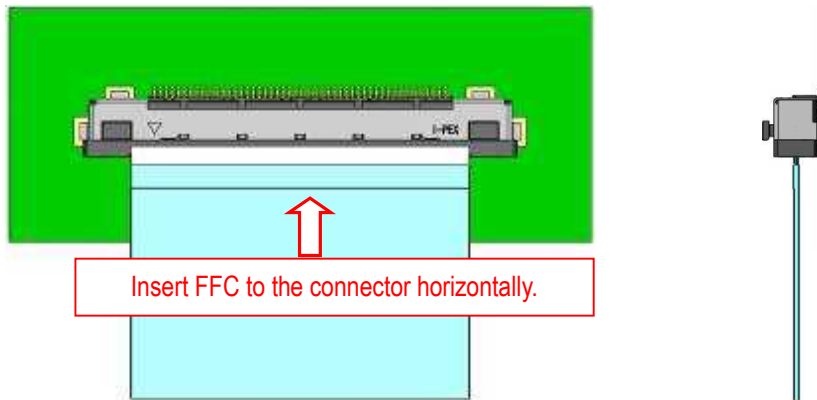

Fig.2-3 FFC inserting method 2
- ② Please insert FFC to the connector horizontally and deeply. (Fig.2-3)